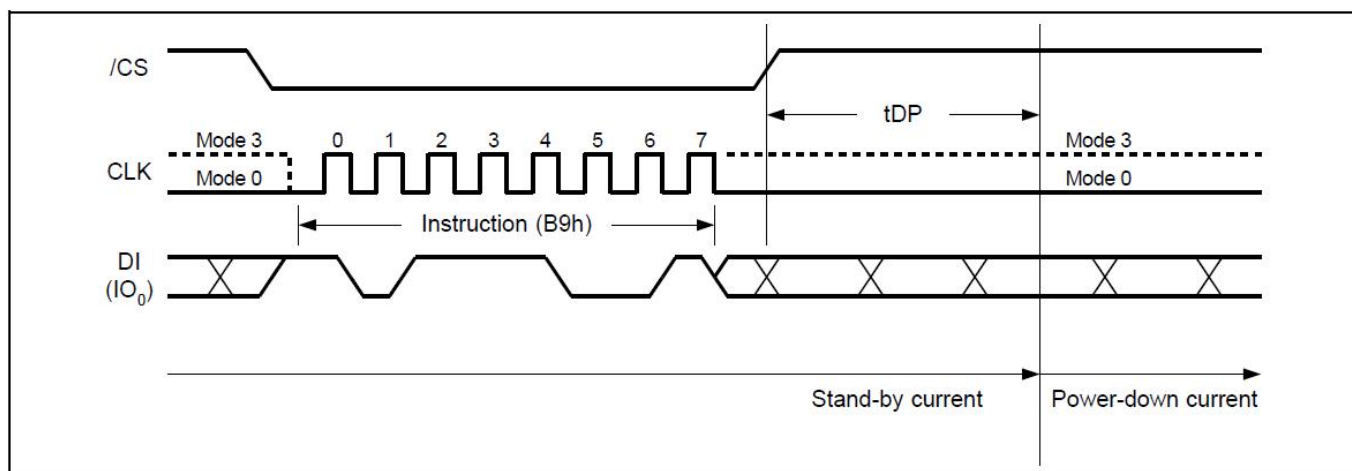

Figure20. Deep Power-Down Sequence Diagram
The Deep Power-Down Mode automatically stops at Power-Down, and the device always in the Standby Mode after Power-Up. The Deep Power-Down command sequence: CS# goes low → sending Deep Power-Down command → CS# goes high. The command sequence is shown in Figure20. CS# must be driven high after the eighth bit of the command code has been latched in; otherwise the Deep Power-Down (DP) command is not executed. As soon as CS# is driven high, it requires a delay of t_{DP} before the supply current is reduced to IDPD and the Deep Power-Down Mode is entered. Any Deep Power-Down (DP) command, while an Erase, Program or Write cycle is in progress, is rejected without having any effects on the cycle that is in progress.